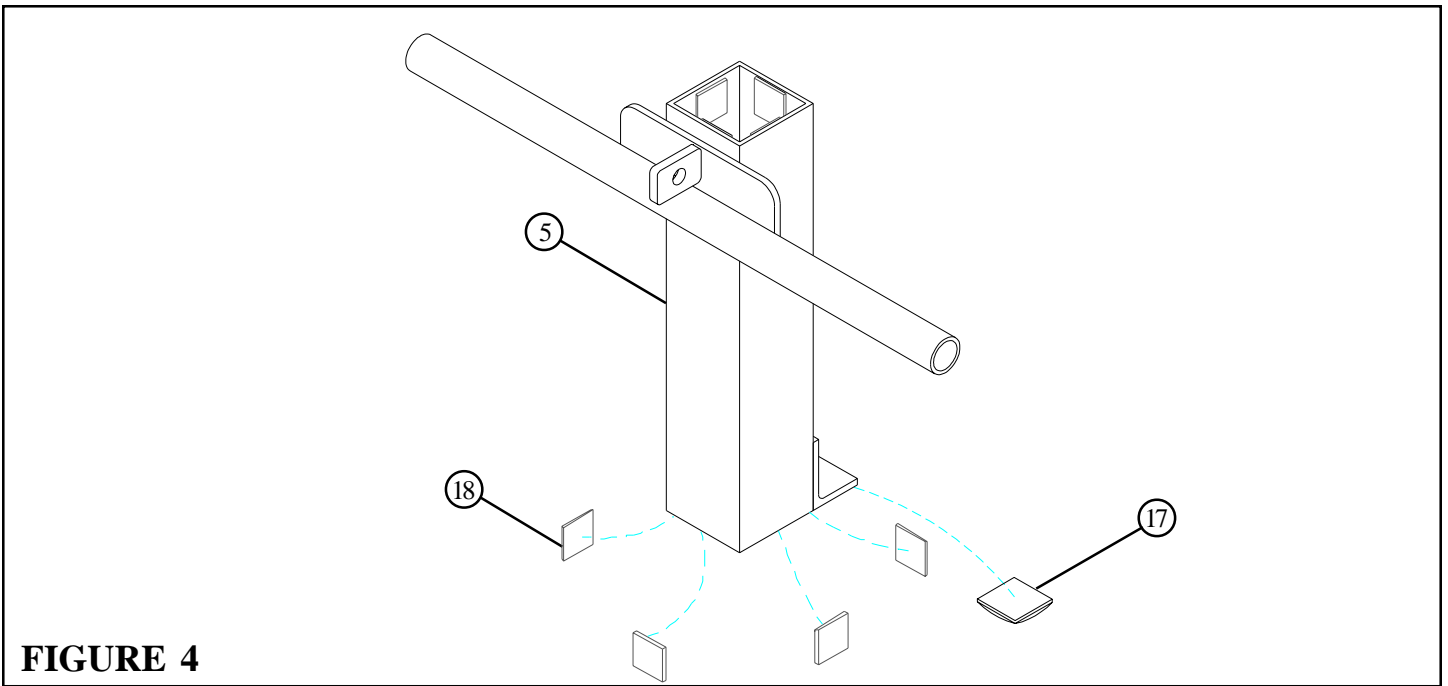

FIGURE 4
- Attach eight 1 X 1” GLIDES (18) to the ends the CARRIAGE (5) as shown in FIGURE 4 using the following steps:
- Thoroughly clean all surfaces where the 1 X 1” GLIDES (18) are to be attached.
- Remove the 1 X 1” GLIDES (18) from the paper backing and firmly apply them to all shown surfaces.
- **SECURELY** attach one 1-1/4” SQ. RUBBER BUMPER (17) to the CARRIAGE (5) as shown in FIGURE 4.